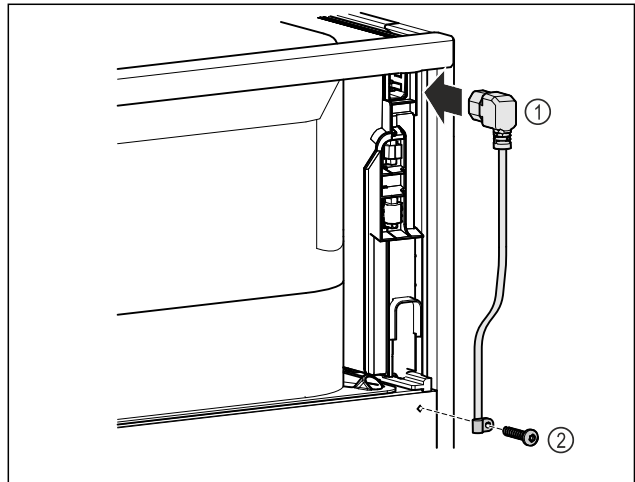

Fig. 9
- IEC socket of the power cable Fig. 9 (1) on the rear side of the appliance.
► Install mains tension relief. Fig. 9 (2)